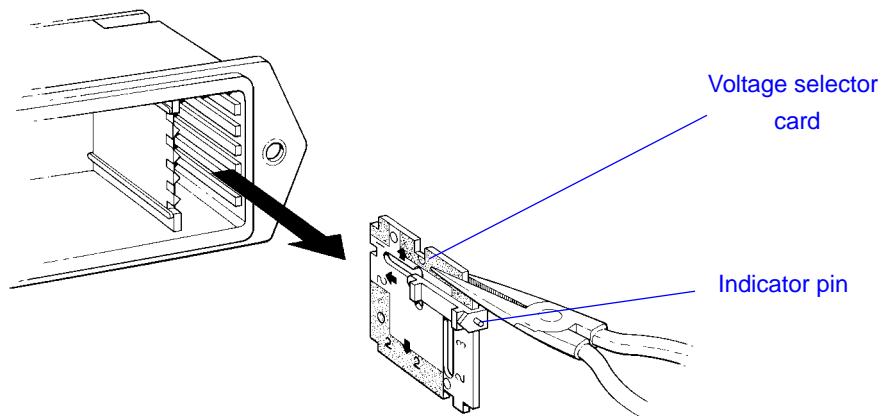

Figure 4-5. Removing the Voltage Selector Card
4. Remove the voltage selector card using long nose pliers as shown in Figure 4-5.
5. Position the voltage selector card so that the indicator pin points up, as shown in Figure 4-5.